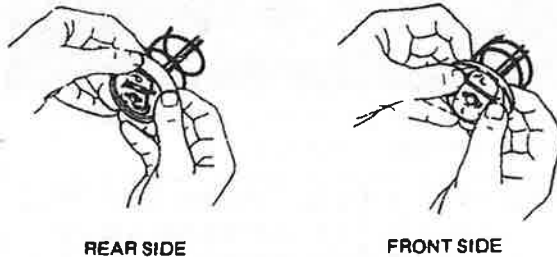

Figure 2
1. Visually check the follower seal lip direction before loading a new cartridge. The follower seal lip must be directed toward the follower handle or rear side for cartridge loading. See Fig. 2. To change the direction of the follower seal, unscrew tube cap from grease tube assembly and pull on the handle to remove follower seal from tube. Flip follower seal over and re-assemble.